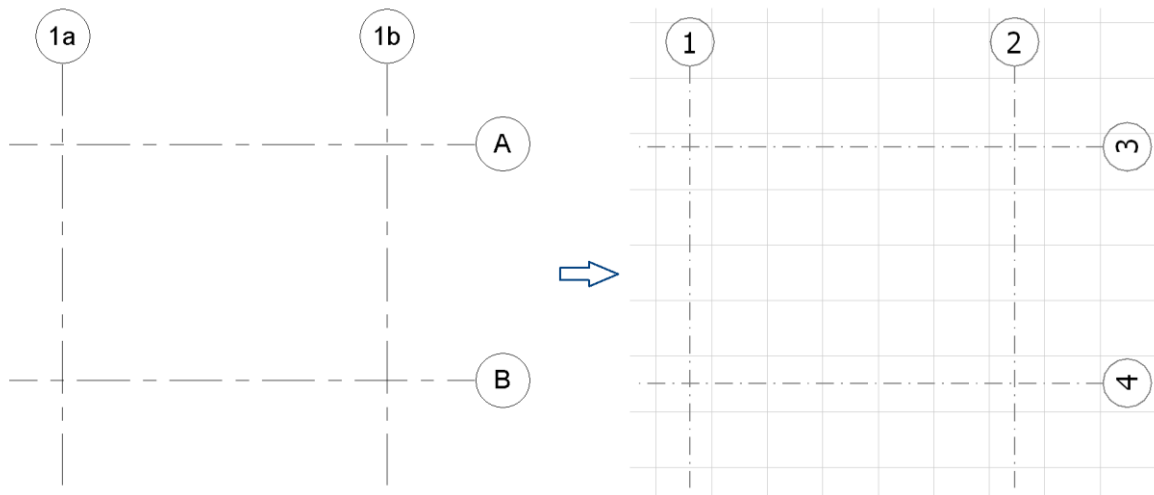

Figure 3-9
- Names of the grids are not exported. Each axis in FEM-Design will receive a new number based on the order of grid creation in Revit, as shown in Figure 3-9. If necessary, renaming can be performed in FEM-Design.